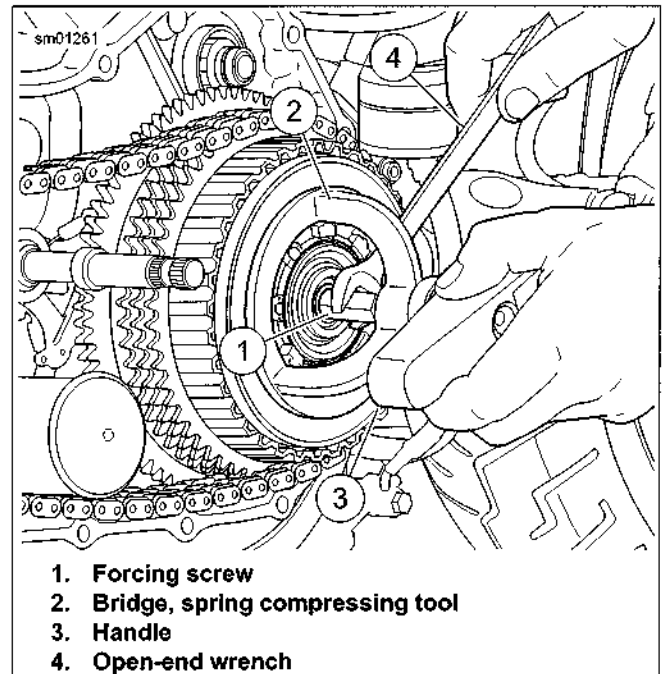

Figure 5-11. Compressing Clutch Diaphragm Spring
2. See Figure 5-11. Compress clutch diagram spring.
4. Place pressure plate (11) and adjusting screw onto clutch pack (28).
5. Assemble bearing (13) and adjusting screw (12) in release plate (15). Secure with **new** retaining ring (14).
6. Align the two tabs on perimeter of release plate (15) with the corresponding recesses in pressure plate. Install adjusting screw assembly (12, 13, 14, 15) into pressure plate (11). Secure adjusting screw assembly with **new** retaining ring (16).
7. Install diaphragm spring (17) with its concave side facing inboard (toward pressure plate), onto pressure plate assembly. Align square openings of pressure plate and diaphragm spring (17).
8. Position spring seat (18) with its flat, larger outer diameter side facing inboard (toward diaphragm spring).
9. Install a **new** retaining ring (19) onto convex (outboard) side of diaphragm spring.
11. See Figure 5-11. Place an open-end wrench (4) on the clutch spring forcing screw (1) flats to prevent the forcing screw from turning.